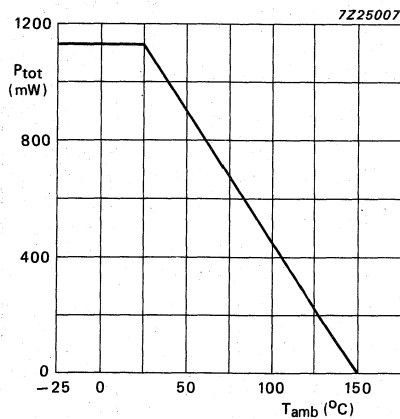

Fig. 2 Power derating curve.
* Output power is measured directly at the output pins of the IC. It is shown as a function of the supply voltage in Fig. 2 (BTL application) and Fig. 3 (stereo application).
Fig. 2 Output power across the load impedance (R_L) as a function of supply voltage (V_p) in BTL application. Measurements were made at $f = 1$ kHz; $d_{tot} = 10\%$; $T_{amb} = 25$ °C.